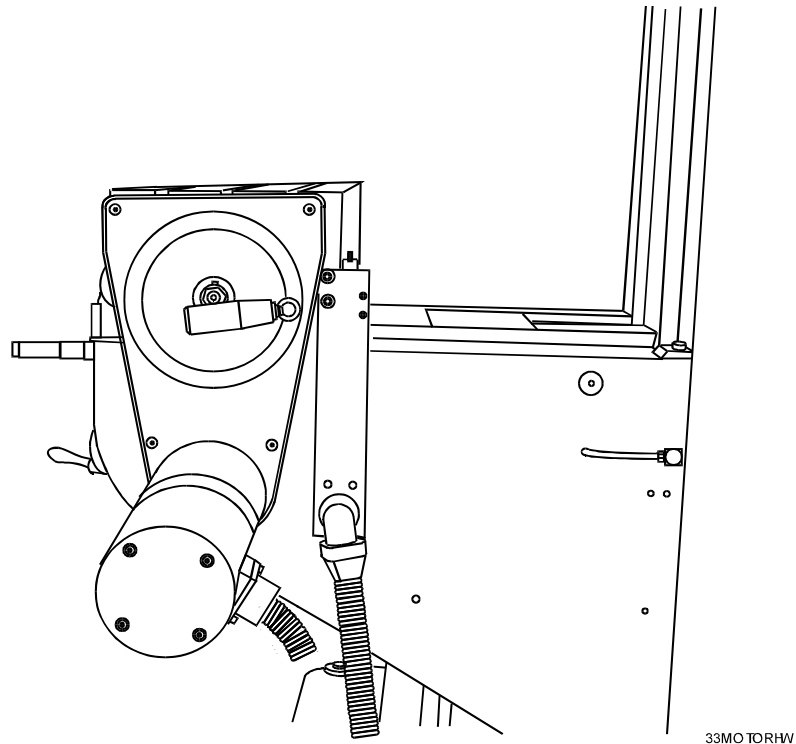

Figure 3-12, X-Axis Motor Drive Installation
17. On certain machines, you may need to mark, drill, and tap new hole locations. Refer to **Figure 3-12**.